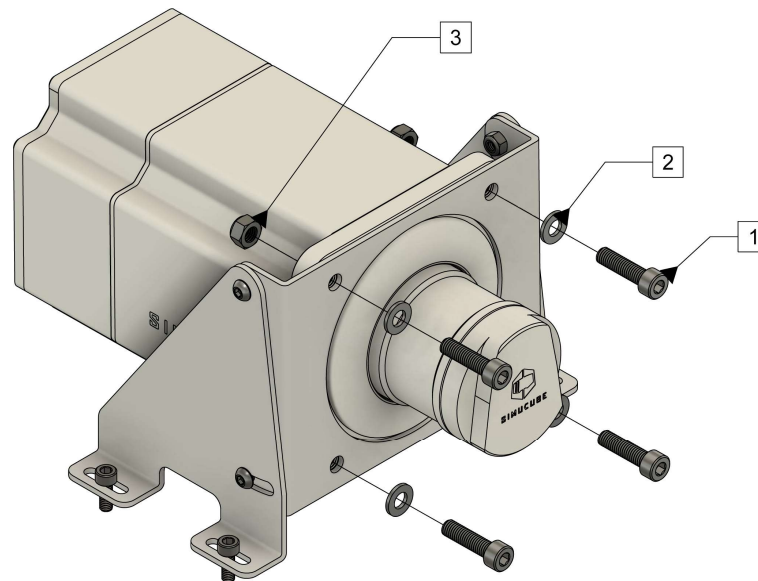

Figure 3 Mounting Simucube 2 using a mounting bracket.
Simucube 2 can be mounted with separate bracket that can convert the front mount to a horizontal platform (table) mounting as in Figure 3. Mounting brackets be found from Simucube resellers listed on <https://www.simucu.be> website.
Mount Simucube 2 as shown in Figure 3. Sport and Pro models are mounted with 30mm M8 bolts with 1.25mm thread pitch (1) and M8 flat washers (2). Simucube 2 Ultimate is mounted through-the-motor flange with bolts (1), washers (2) and a M8 locking nuts (3).